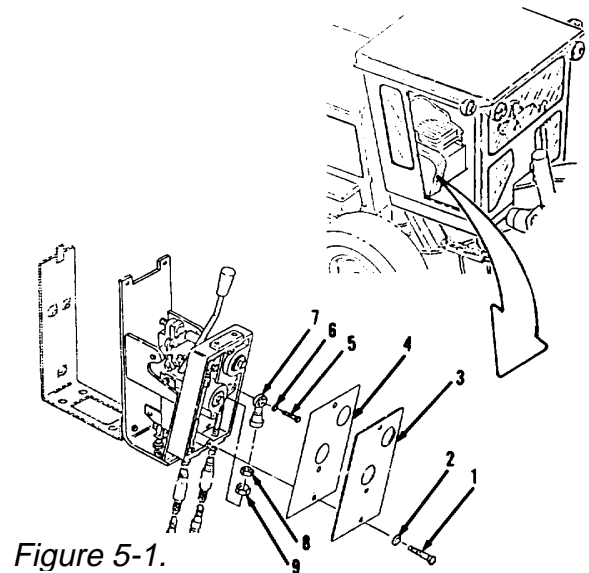
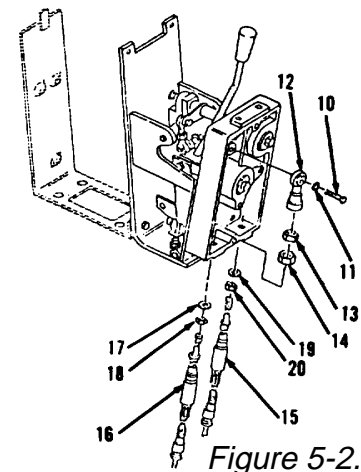

Figure 5-1.
Figure 5-2.
1. Remove three bolts (1), washers (2), cover (3) and gasket (4, Figure 5-1) from right side of operator's compartment. Discard gasket (4). Remove all material from mounting surfaces.
2. Loosen nut (8).
3. Remove bolt (5) and washer (6).
4. Remove rod end (7) and nuts (8 and 9).
5. Loosen nut (13, Figure 5-2).
6. Remove bolt (10) and washer (11).
7. Remove rod end (12) and nuts (13 and 14).